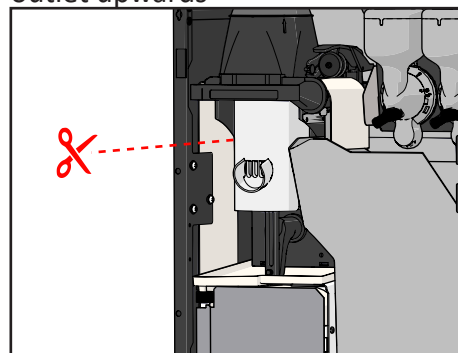

Figure 70. Cut/tear the filter paper
4. Tear or cut the filter paper on the left side of the brewer (see Figure 70).